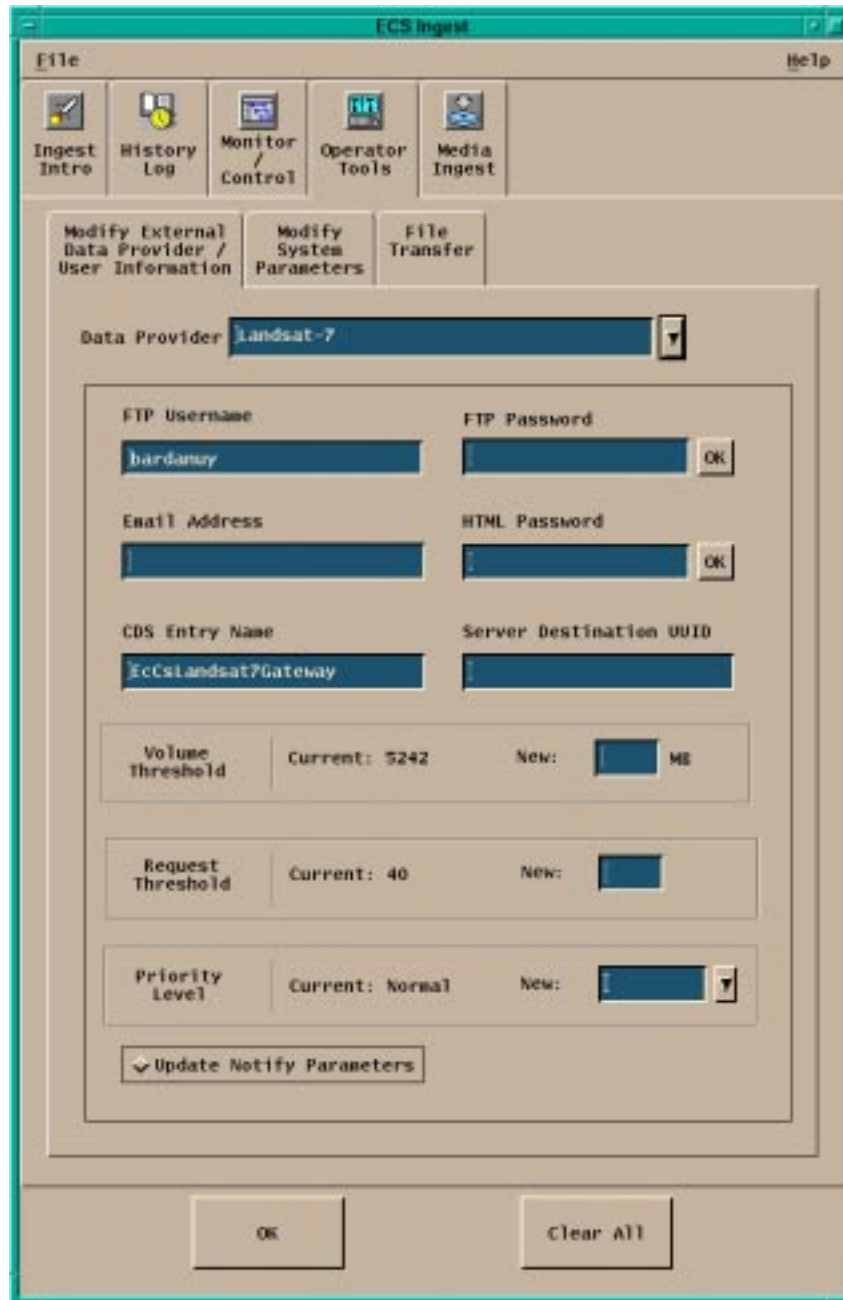

Figure 4.6.1-5. Operator Tools - External Data Provider/User Information Subtab
- **Modify System Parameters subtab** allows setup of thresholds and system information on a system-wide basis as shown in Figure 4.6.1-7.
- **File Transfer subtab** allows setup of external node information as shown in Figure 4.6.1-8.